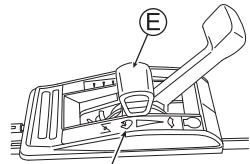

Fig. 17
2. Set the throttle lever (E) to "🐾" to start mowing. (See Fig. 17)